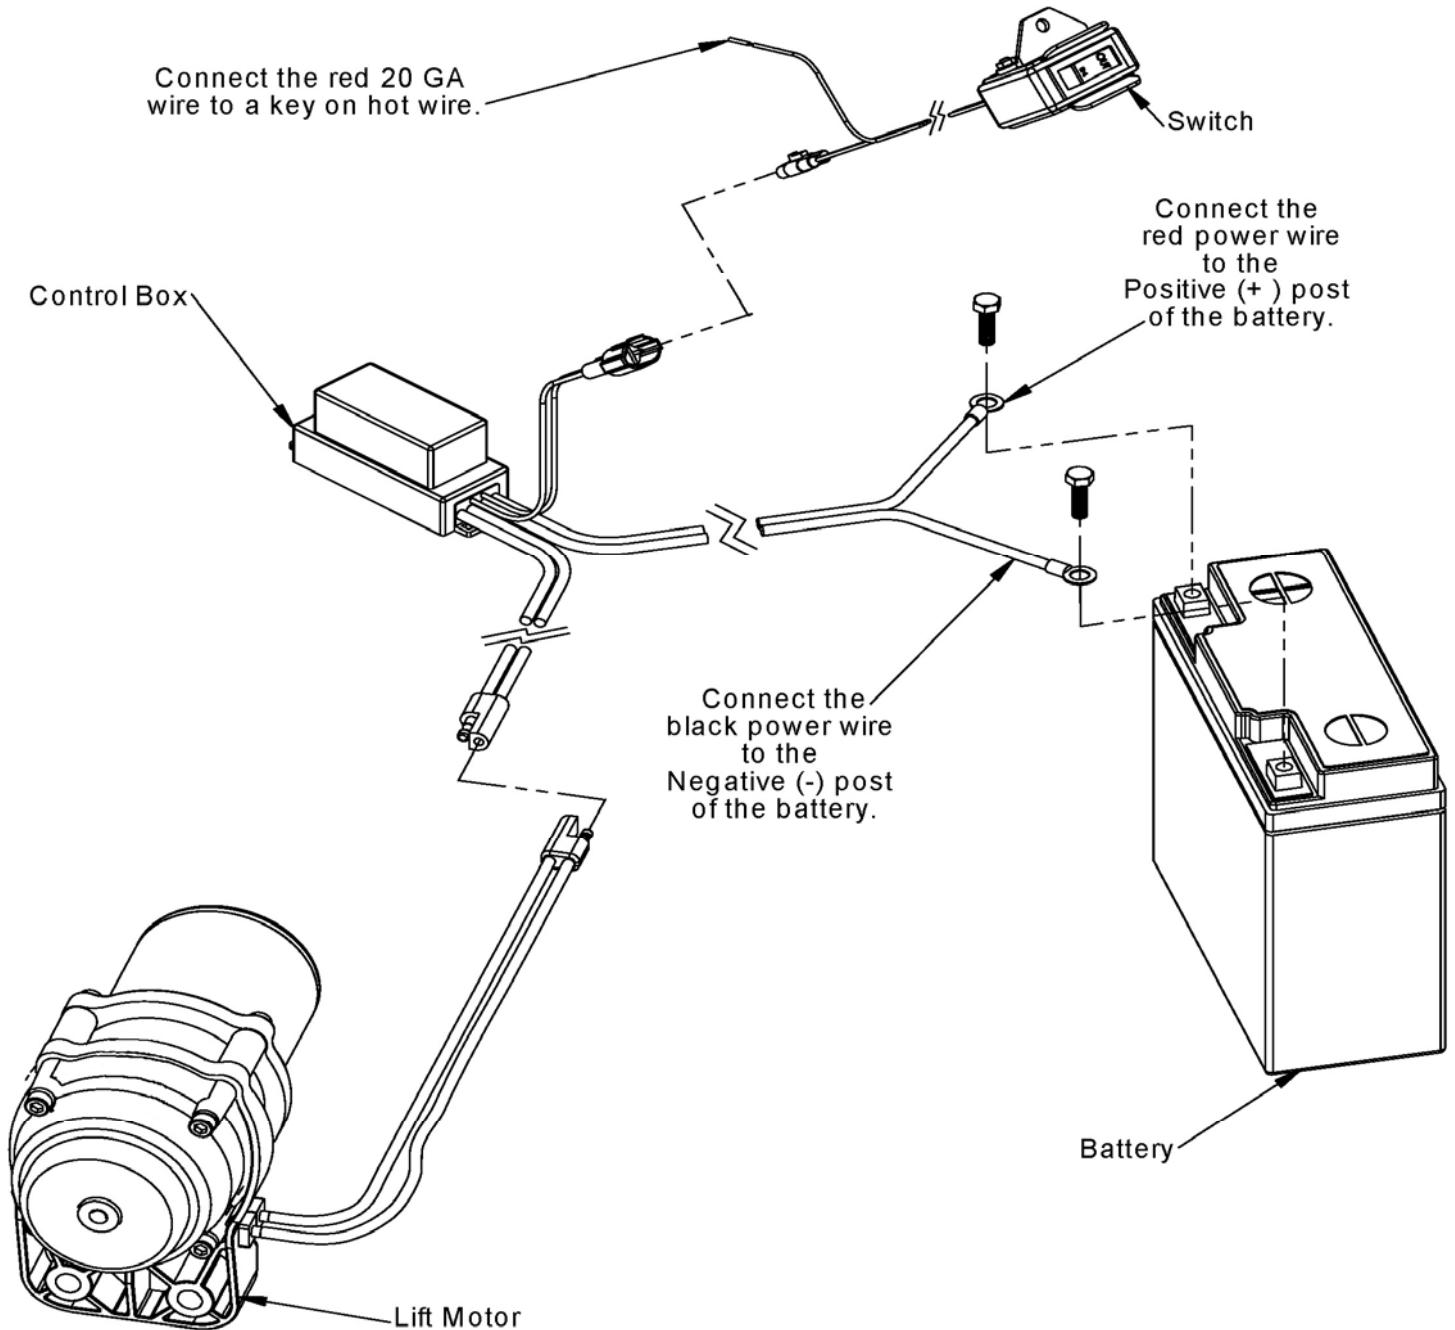

Figure 3
- After choosing a mounting location for the control box make certain that all wiring will reach the appropriate location. (see figure 3)